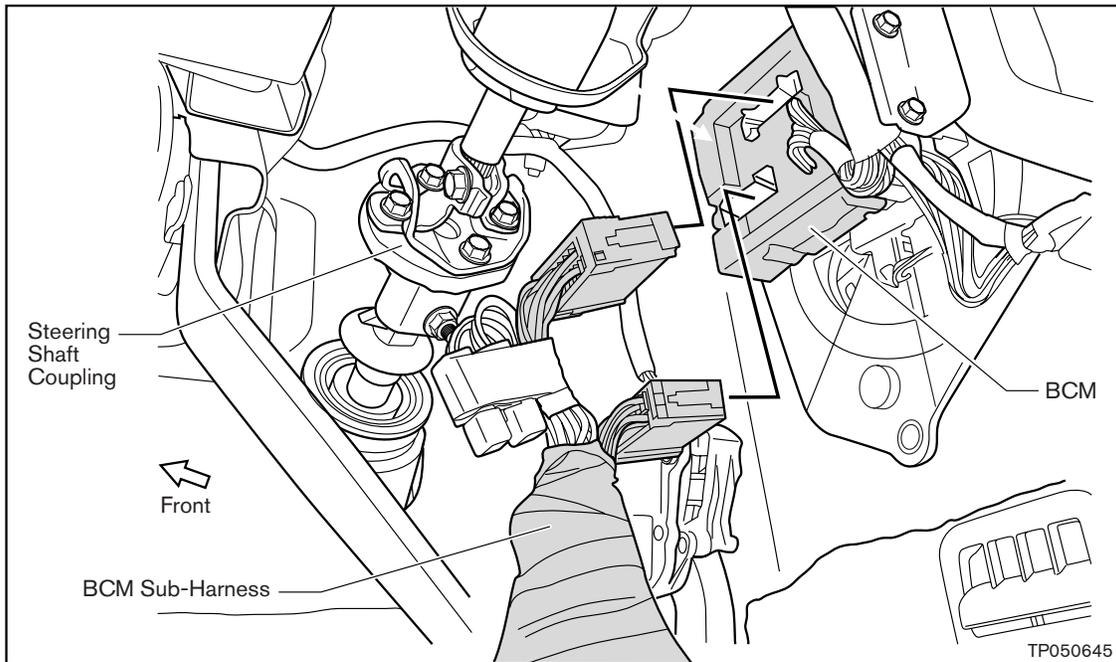

Figure 16
10. Connect the fuse end of the BCM Sub-Harness to the BCM as shown in Figure 16.